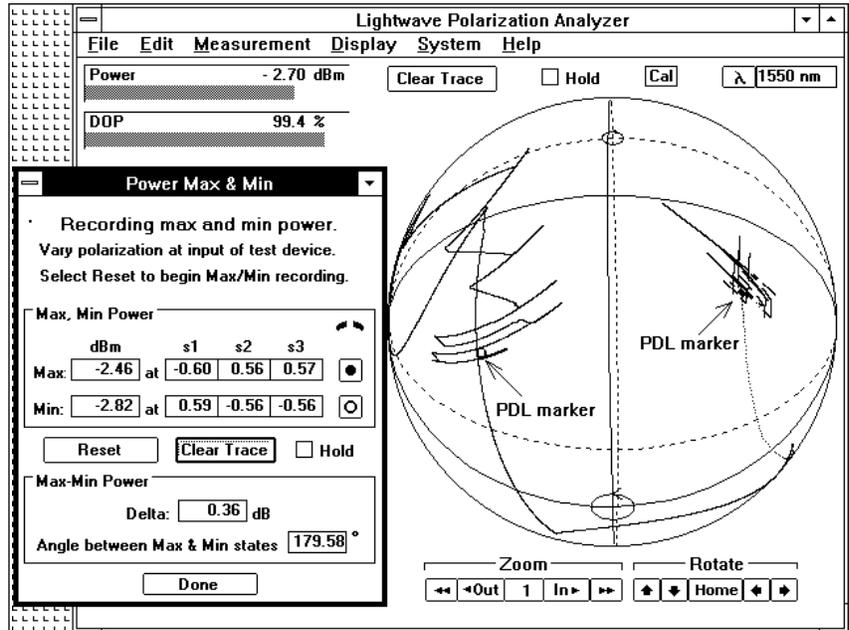
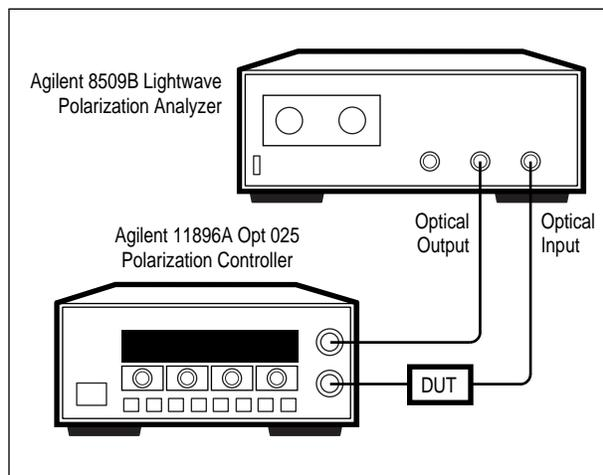

Figure 8. Typical display for Agilent 8509/11896A Power Max./Min. PDL Measurement System
Figure 9. Setup for PDL measurements using the Agilent 8509/11896A Power Max./Min. PDL measurement system
The Agilent 8509/11896A Power Max./Min. PDL test system is a semi-automatic, single-wavelength PDL measurement system. It provides a PDL value and absolute maximum and minimum power values and polarization information (see Figure 8).
The Power Max./Min. PDL measurement method is similar to the Agilent 8153A/11896A power meter method discussed in this document. During this measurement, the Agilent 8509A or 8509B Polarization Analyzer monitors the average output power and state of polarization. PDL Markers are automatically placed on the Poincare sphere (see Figure 8) to indicate the points at which optical power maximum and minimum occur. The respective Stokes parameters for the Max. and Min. points are also shown in Figure 8. The polarization state of the test signal is automatically adjusted using the Agilent 11896A Polarization Controller shown in Figure 9.
6. When 0:10 (10 seconds) appears in the scan time indicator, press **Manual**. This stops the polarization scan. 10 seconds is the recommended polarization scan time (also referred to as measurement time) for PDL values of <3.0 dB. PDL values greater than 3.0 dB will require more polarization scan time. As a general rule, let the polarization scan continue until the value of the “Angle between Max & Min states”, shown in Figure 8, is between 150 to 180 degrees. This is the angle between the Max. and Min. PDL markers on the Agilent 8509 Poincare sphere display.
7. The measurement is complete. PDL data is shown in the “Max-Min Power” data box (see Figure 8).